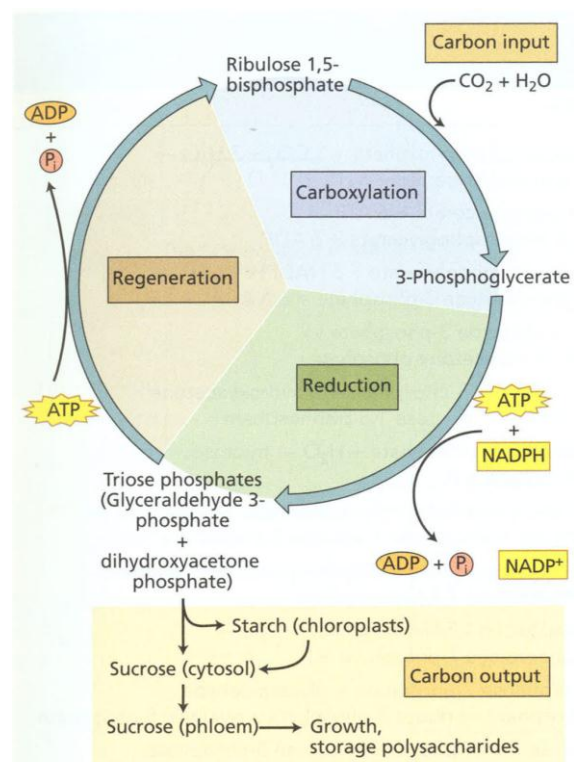

Fig. 8.2 The Calvin—Benson cycle proceeds in three stages
1. The Calvin—Benson cycle proceeds in **three stages** that are highly coordinated in the chloroplast (Fig. 8.2)